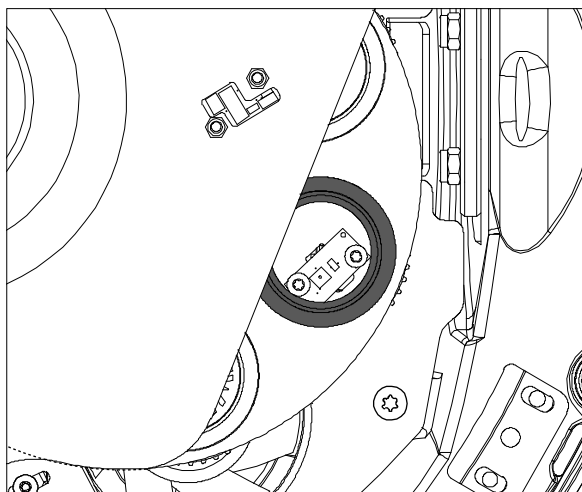

Figure 18: Turn the gobo to the position which is to be replaced
2. Turn the gobo wheel until the desired gobo wheel is accessible (see figure 18).